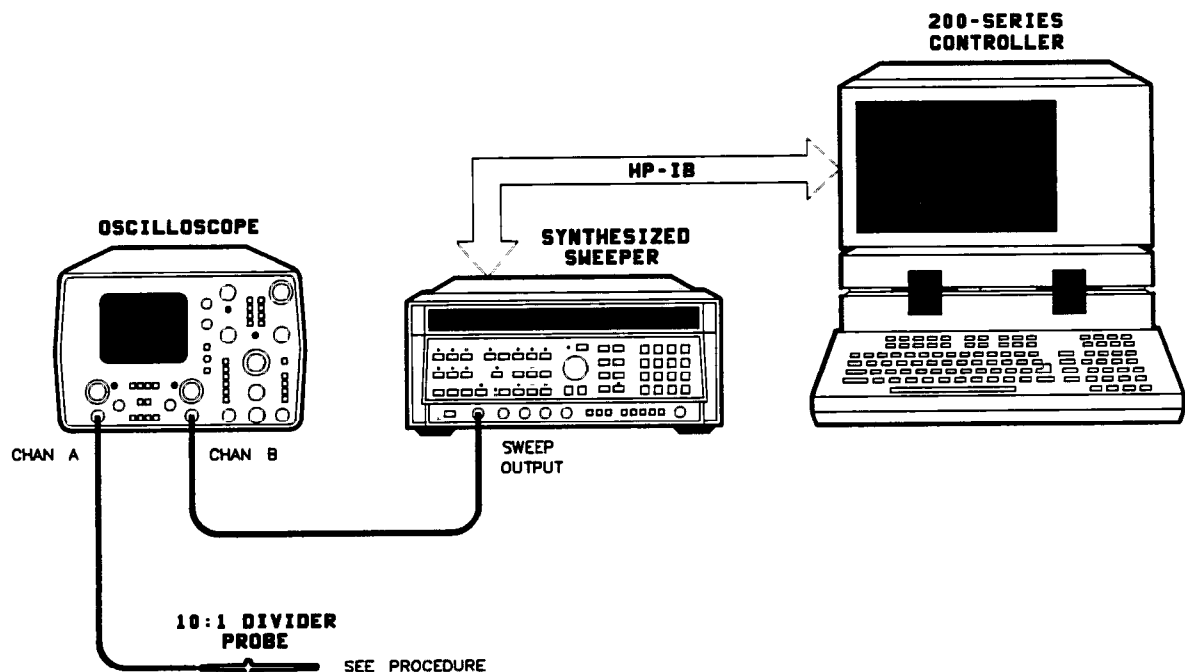

Figure G-19a. 40GHz Data Control Lines Troubleshooting Setup. Commands entered on the controller exercise rear panel data control lines.
1. Connect the equipment as shown in Figure G-19a. Turn the equipment on.